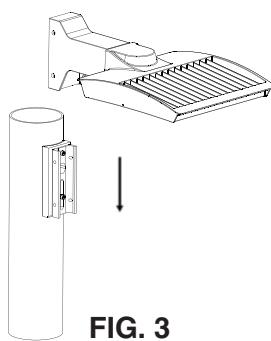

FIG. 3
2. Insert the fixture onto the adapter (see **FIG. 3**).